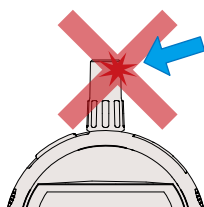

Fig. 3
1. Do not move the spindle rapidly, apply force in the transverse direction nor the cap, otherwise operation and accuracy may be adversely affected. (**Fig. 3**)